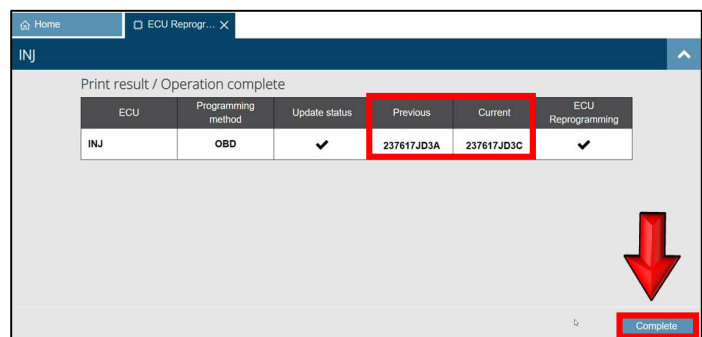

Figure 18
18. Verify "Current" (new) part number is different than the "Previous" part number. (Figure 18)